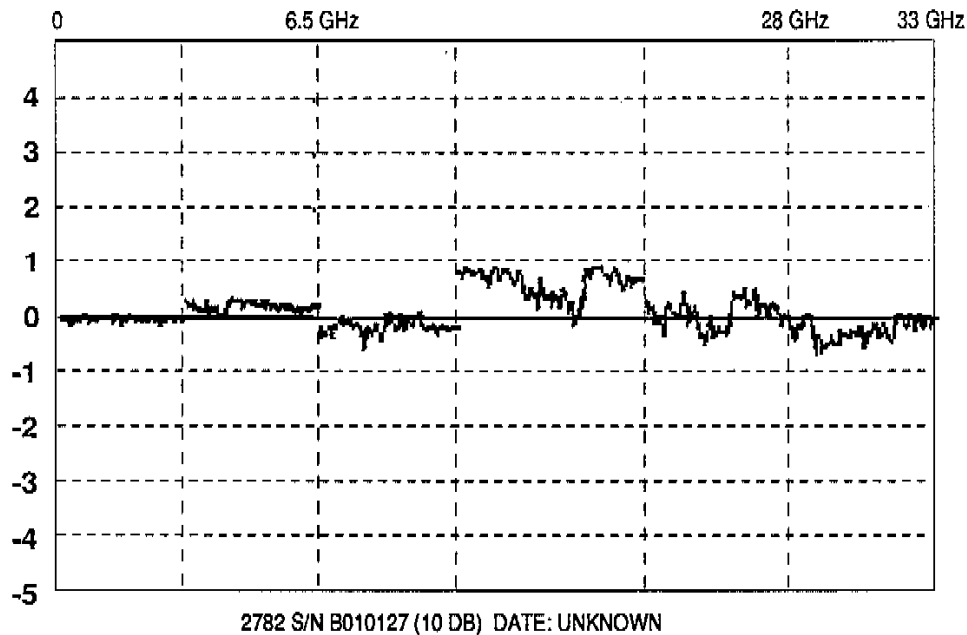

Figure 2-4. Example Plot for Flatness and RF Gain Uncertainty Measurements
- b. From the flatness check data collected in Part I of this procedure, determine the maximum peak-to-peak corrected flatness (in dB's) for all the attenuator settings in the 0 to 6.5 GHz frequency range (see the example in Figure 2-4). Then enter one half of this value in the performance-verification spread sheet.
- b. Using the corrected flatness data plots obtained from the Part I flatness checks (see the example in Figure 2-4), determine the average gain for each band at 10 dB attenuation, relative to the 0 dB line.